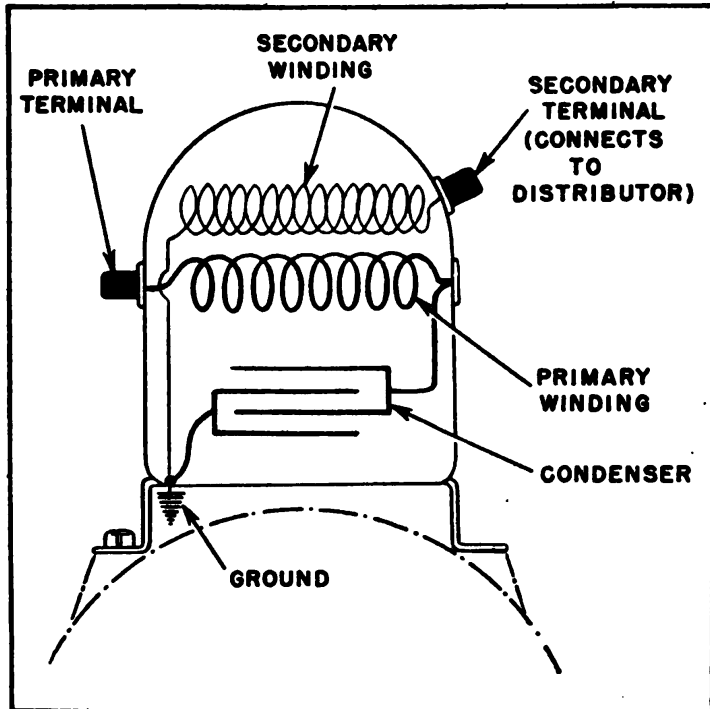

FIGURE 99.—Wiring of ignition coil used in conjunction with distributor.
*b. Timer-distributor system.*—On the Indian, one terminal of the secondary winding of the ignition coil is grounded as shown in the wiring diagram (fig. 99), and the other terminal is connected to the central terminal of a timer-distributor unit. This unit contains the timer (circuit-breaker) which opens and closes the primary circuit and the distributor which supplies the secondary current to the spark plugs in their proper firing order.